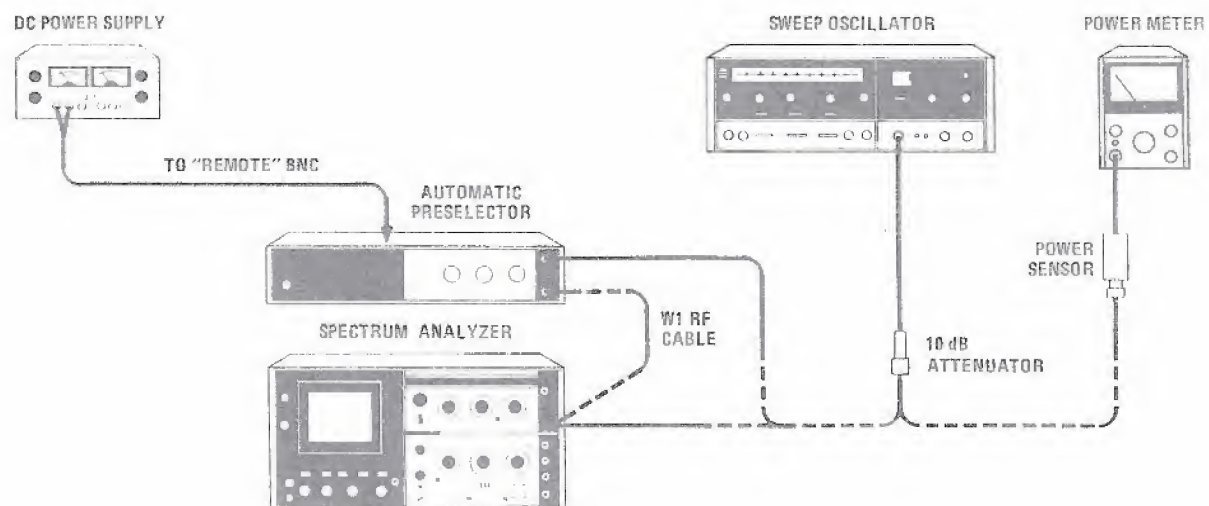

Figure 4-3. Insertion Loss Test Setup, 1.8–18 GHz
1. Connect test setup as indicated in Figure 4-3 and set the controls as follows: